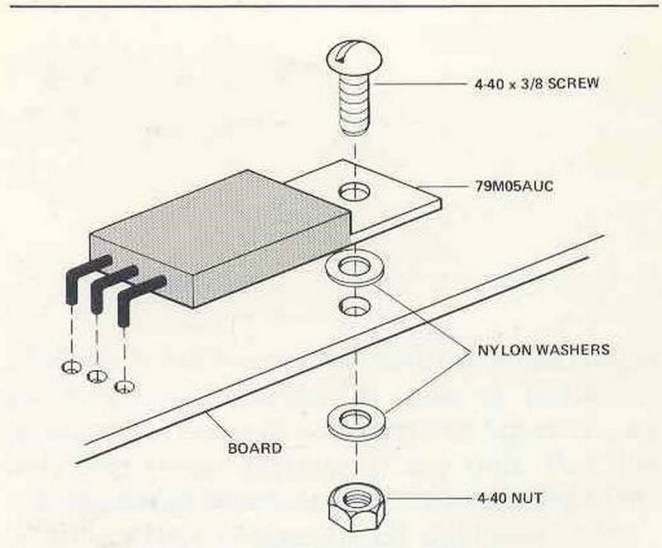

Figure 2-11. Voltage Regulator (VR1) Installation.
- Referring to Figure 2-11, fasten the regulator to the board with a 4-40 x 3/8 screw, 2 #4 nylon washers, and a 4-40 nut.